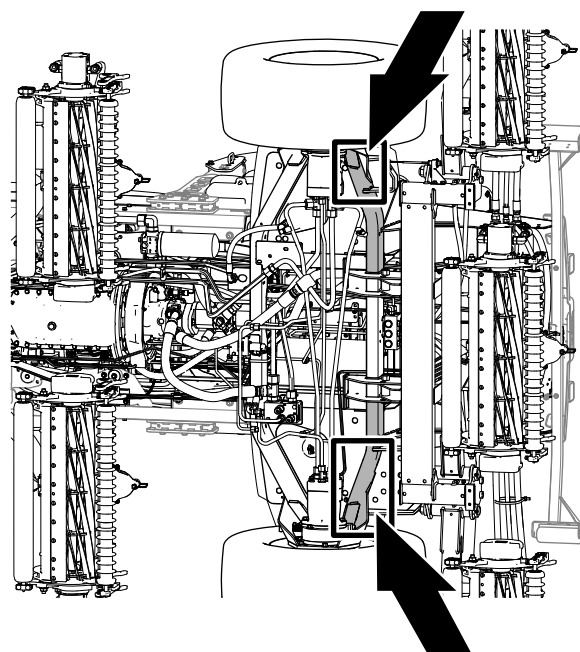

Figure 65
- Front of the machine—at the frame of the machine, forward of the wheel-drive motors (Figure 65).